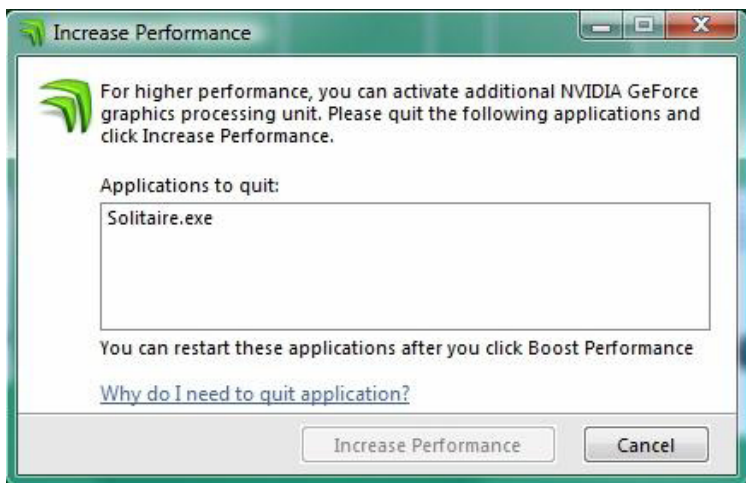

Figure 2. Open 3D Applications Block Hybrid SLI Transition
The Hybrid SLI control panel indicates when a hybrid mode change cannot be made due to open applications (see Figure 2). The Hybrid SLI control panel also indicates when the user-selected Hybrid State is not in sync with the Windows Vista Power Profile of the system
- ❑ The Hybrid SLI control panel provides a list of applications that are blocking the Hybrid SLI transition and asks the user to close those applications to complete the transition (Figure 2).